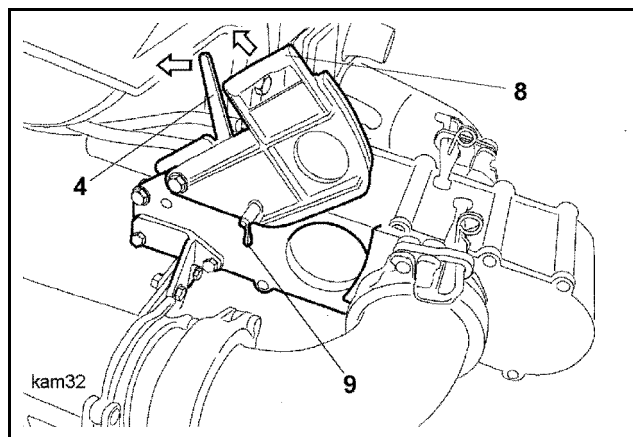

Fig. 458
- Shut the ball valve by pulling the lever (4) (**Fig. 458**) up 90° so that the hydraulic cylinders cannot be actuated and the ball flap can be opened.
- Open the flap of the chamber valve using the handle (8) and lock it in place with the toggle (9) (**Fig. 458**).
The flap can only be opened if the lever (4) (**Fig. 458**) is turned (ball valve closed).